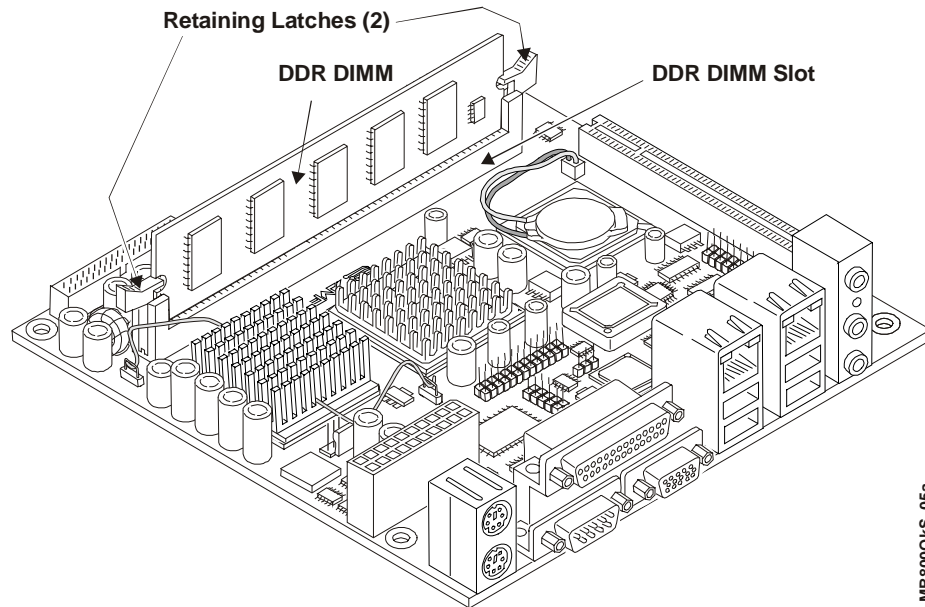

Figure 2-1. DDR DIMM Location
4. Locate the DDR DIMM slot (DIMM1) on the MightyBoard 800. See Figure 2-1.